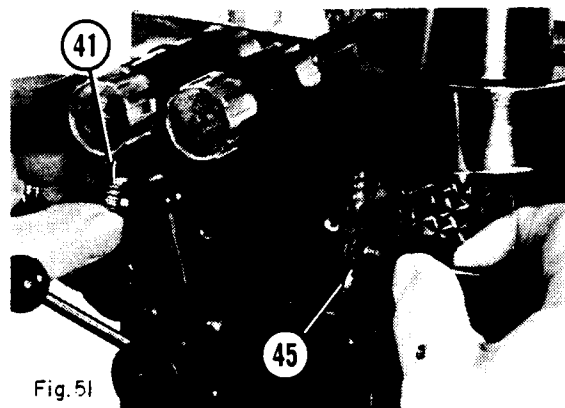

Fig. 51
- a. The setscrews (46) have to be removed before attempting to pull the flexible shaft assembly (47) from the feed rate shaft (45) as shown in Fig. 51.